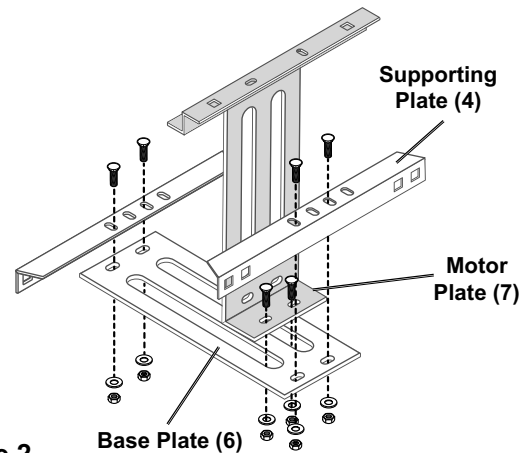

Figure 2
2. Fasten Supporting Plates (4) to the ends of the Base Plate (6). Attach the Motor Plate (7) to the end of the slots in the Base Plate. See Figure 2.